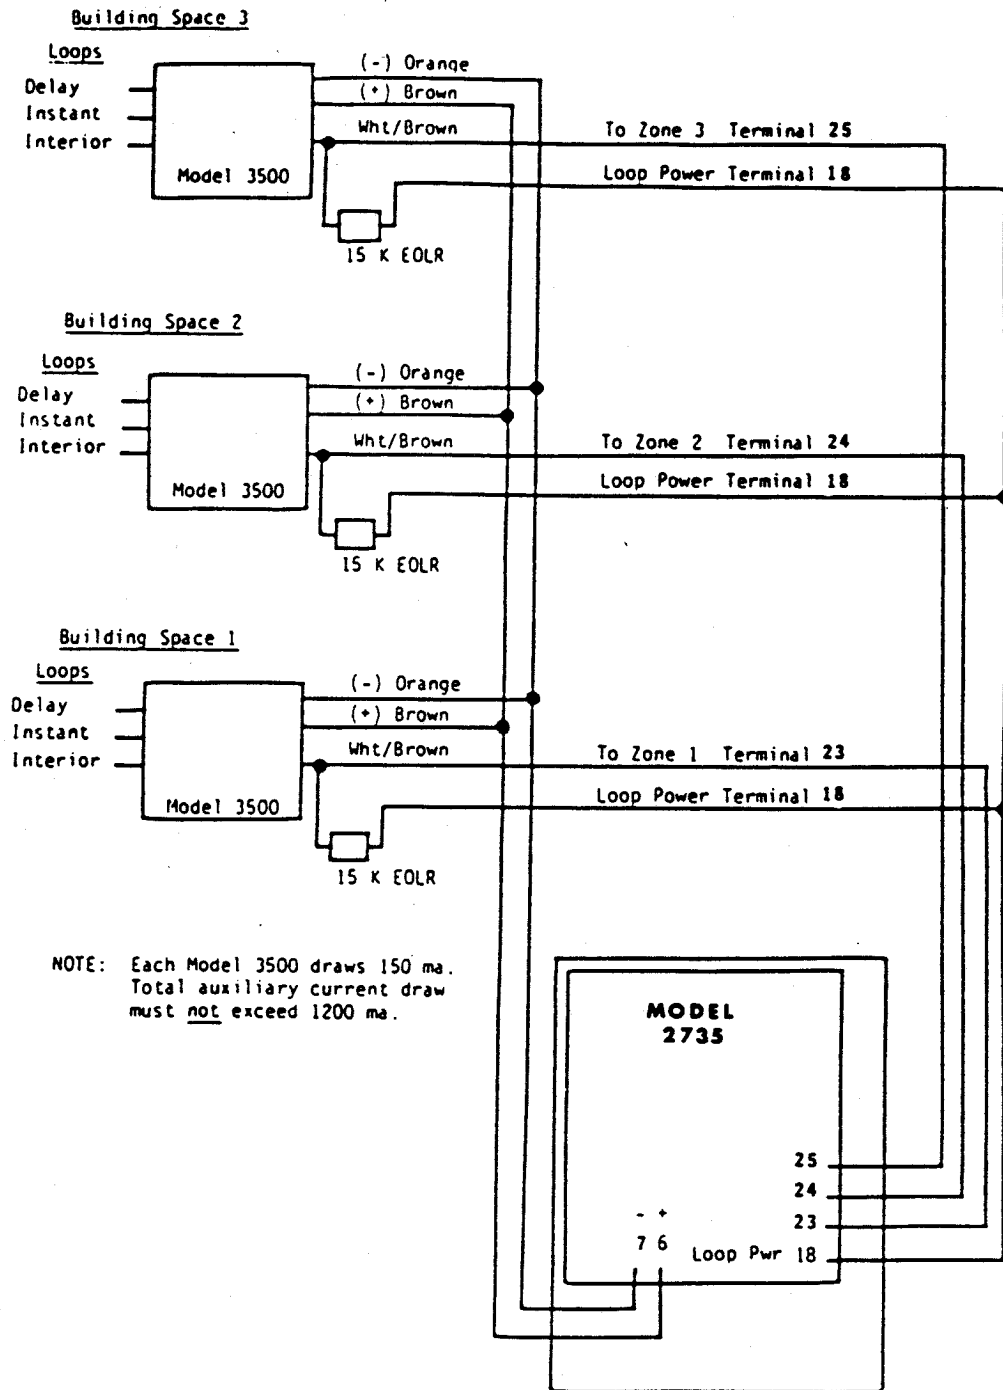

FIGURE 17
Figure 17 shows the wiring of (3) Model 3500 control panels to the Model 2735.